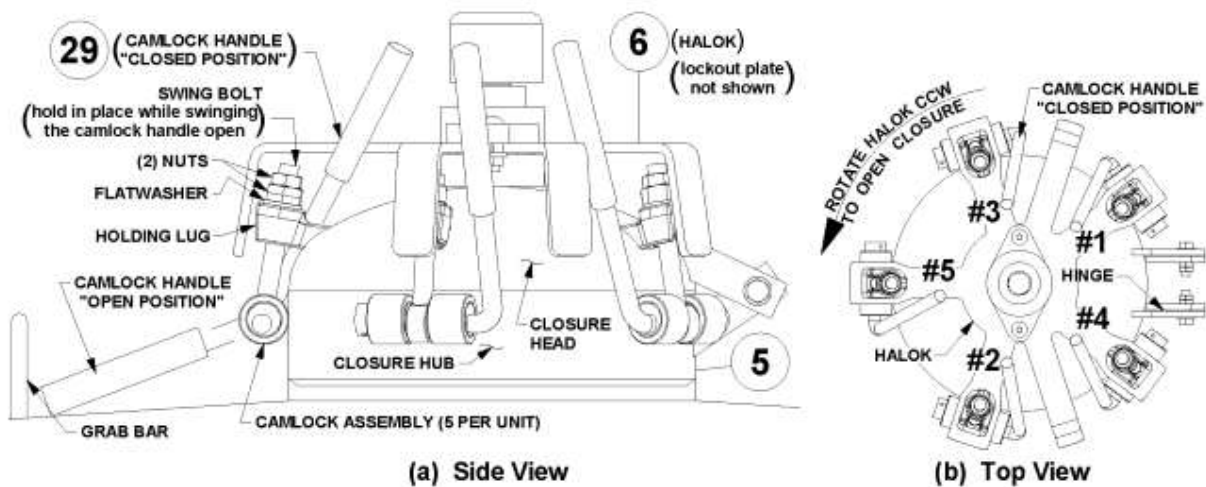

Figure 6.4.1 – Bulk Abrasive Blaster Closure Assembly
6.4 Closure Assembly Closing Procedure (See Figure 6.4.1 and 6.4.2)
- 6.4.3. Each time the closure assembly is opened all the camlock assemblies and hinge assemblies must be inspected for damage, including but not limited to, corrosion, cracks, and deformations. Make sure all the swing bolts, nuts, washers, cams, spring pins, and handles are in place (See Drawing 9.3(a)). Inspect the threads of each swing bolt and (2) nuts for corrosion or wear. Each camlock assembly and hinge must be tested for ease of operation. Any camlock, swing bolt, nut, or hinge that show signs of damage, corrosion, wear, or does not swing freely must be repaired or replaced *before* re-pressurizing the blast vessel. The camlock handles must be installed into the cam lugs as shown in Figure 6.4.1(b) so there is no interference with closure head handle or hinges and to insure proper operation of the closure Halok® (#6). The torque on the camlock assembly nuts must be properly adjusted. See Sections 8.4 and 8.5 for closure assembly maintenance instructions and adjustment procedures.
- 6.4.4. Swing all the swing bolts into position within the holding lug. Be sure each swing bolt has the required (2) nuts and flat washer, and they are in good condition. See Figure 6.4.1.
- 6.4.5. After all the swing bolts are in position within the holding lugs rotate the Halok® (#6) clockwise to allow access to the camlock handles (#29). See Figure 6.4.1.
- 6.4.6. In the numbered sequence shown in Figure 6.4.1(b), tighten each swing bolt by swinging each of the five camlock handles into the “closed position” against the closure head. If necessary a 1/2” pipe 12 inches long can be slipped over the end of the camlock handle to increase leverage.